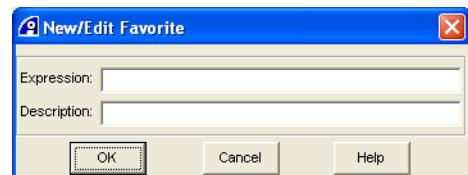

Figure 11-44 New/Edit Favorite dialog box
5. Click **New** to display the New/Edit Favorite dialog box, shown in Figure 11-44.